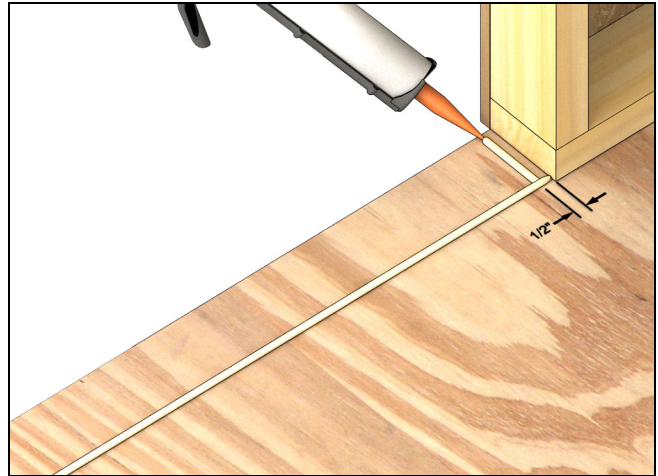

Figure 11
2. Apply a 3/8" (10) bead of sealant on the sub floor at the interior edge of the door opening. See Figure 11.